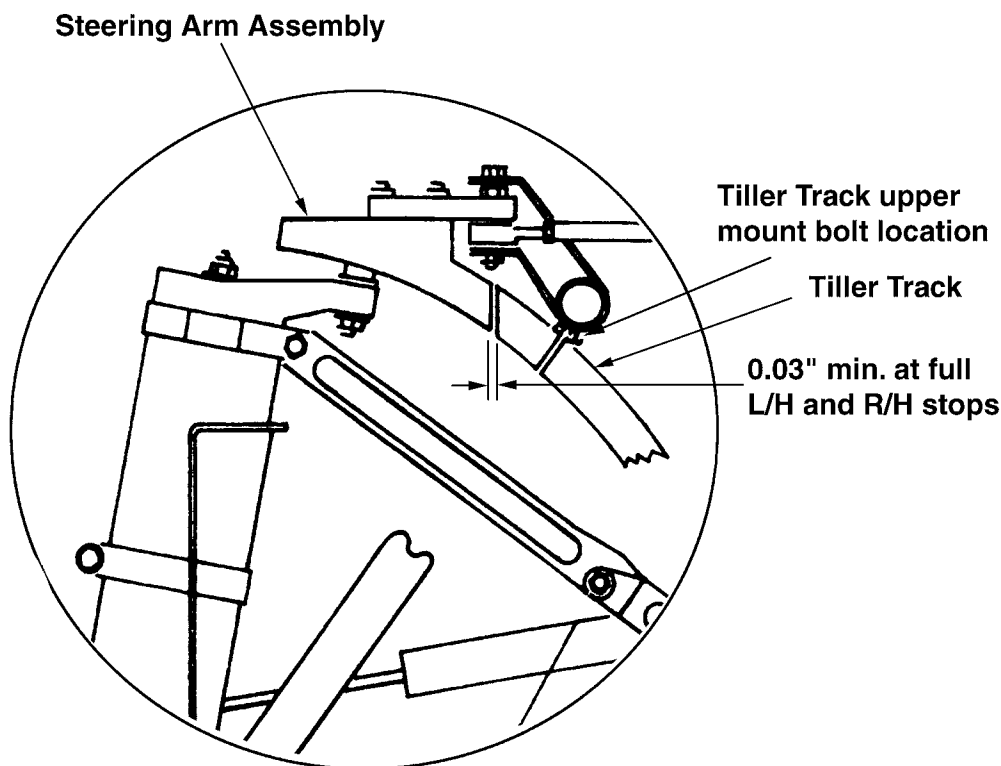

Figure 4
- a. Turn the nose gear full travel and make sure the clearance between the steering arm assembly and the tiller track is a minimum 0.03 of an inch at both the left and right stops. (see Figure 4). If insufficient clearance is obtained, loosen the upper mounting bolts for the tiller track and move the track upwards in the slotted holes where the track is attached to the gear mount assembly. Adjust to obtain a minimum clearance of 0.03 of an inch. Tighten the upper mounting bolts.